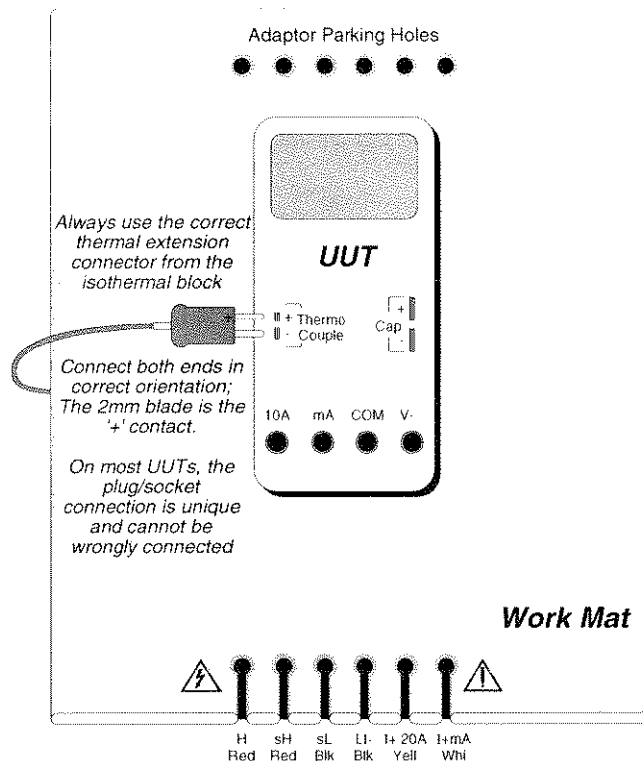

Fig. 14.1
The general connection scheme for UUT calibration is illustrated in Fig. 14.1. Always use the correct extension cable from the Thermocouple socket on the 9105 to the UUT Thermocouple input. Observe the correct polarity, otherwise spurious junctions may be set up.
Connect the 9100 to the UUT as in Fig. 14.1 , and ensure that both instruments are powered ON and warmed up.
1. Connections Connect the 9100 to the UUT as in Fig. 14.1, and ensure that both instruments are powered ON and warmed up.